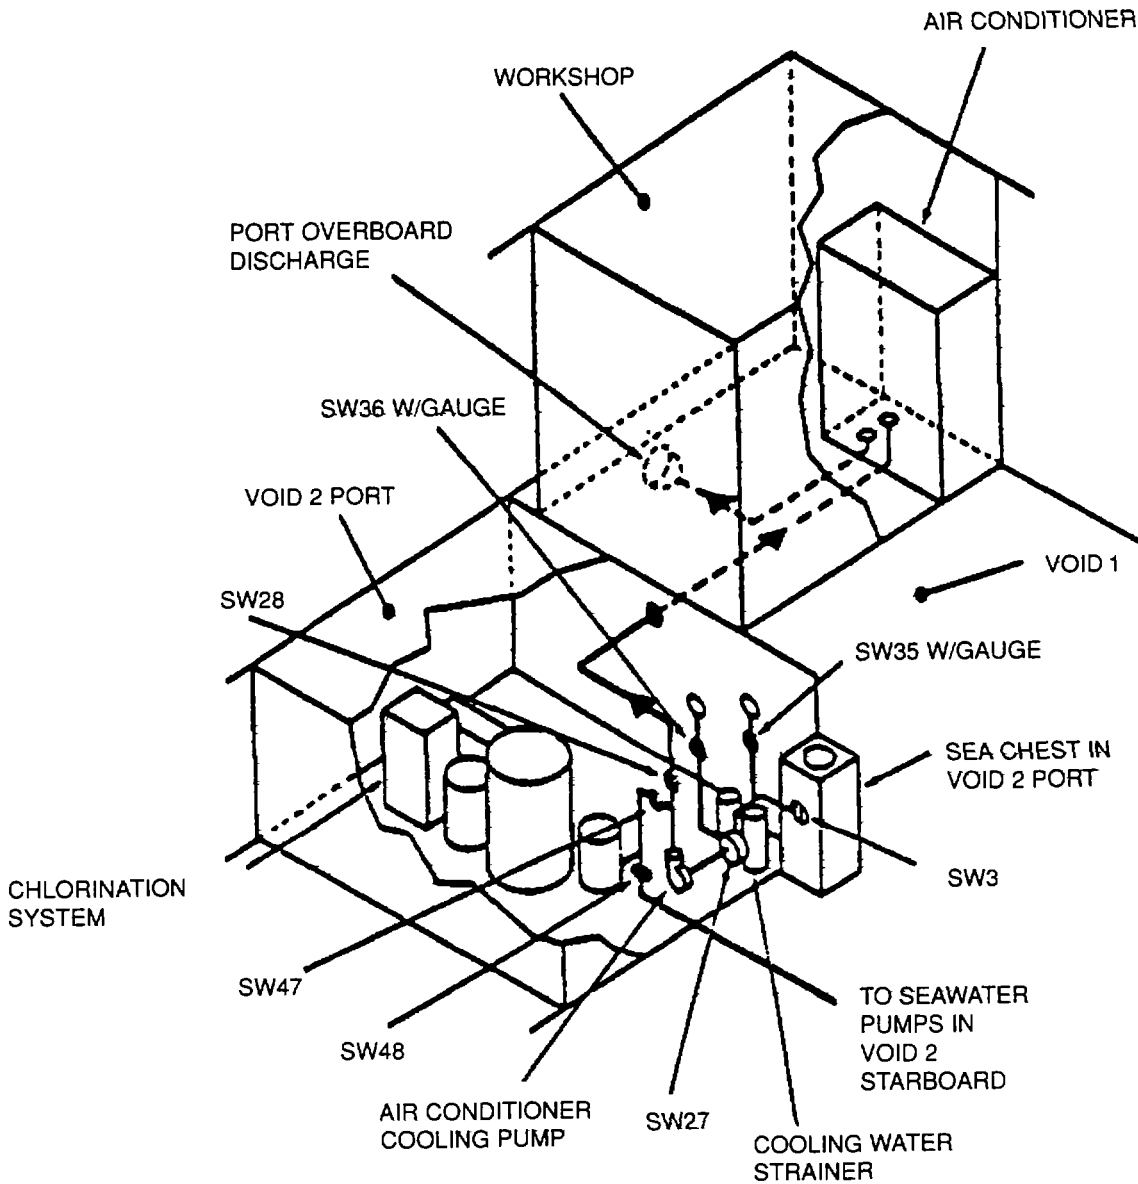

Figure 4-3. Location of Seawater Valves Affecting AC Unit
- d. Seawater valves SW3 and SW27 in void 2 port (Figure 4-3). SW3 controls water flow from forward searchest to seawater strainer 3 and SW27 controls flow of cooling water from seawater strainer 3 to cooling water pump.
- e. Seawater valve SW28, in void 1 underneath AC unit (Figure 4-3) Controls flow of cooling water from cooling water pump to AC unit.
- g. Seawater valve SW47 in void 2 port (Figure 4-3) Controls flow of seawater from cooling pump to chlornation unit
- i. Cooling water pump controller on centerline bulkhead In void 2 port (Figure 4-3). Controls electrical power to cooling water pump.
- g. If AC unit is to be used and seawater pumps are NOT operating, set seawater valves as follows. (Figure 4-3)
- (1) Open SW3, SW27, SW28, SW35 and SW36.
- (2) Close SW47.
- h. If AC unit is to be used and seawater pumps ARE OPERATING, set seawater valves as follows (Figure 4-3)
- (1) Open SW48, 47 and 28.
- (2) Close SW27 and SW3.